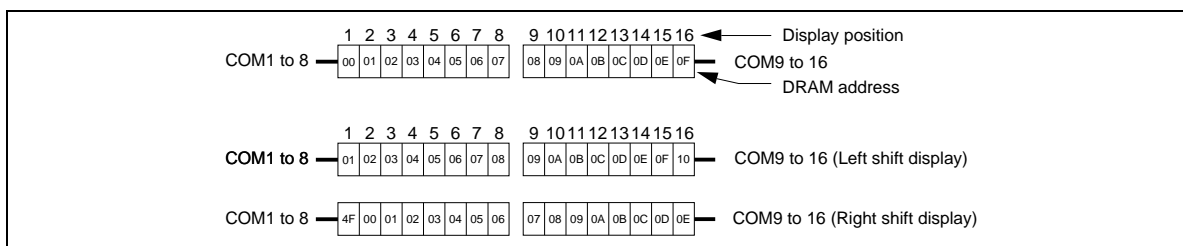

Figure 3 1-line by 16-Character Display Example
- When there are fewer than 80 display characters, the display begins at the head position. For example, if using only the HD66710, 16 characters are displayed. See Figure 3.
- When the display shift operation is performed, the DDRAM address shifts. See Figure 3.